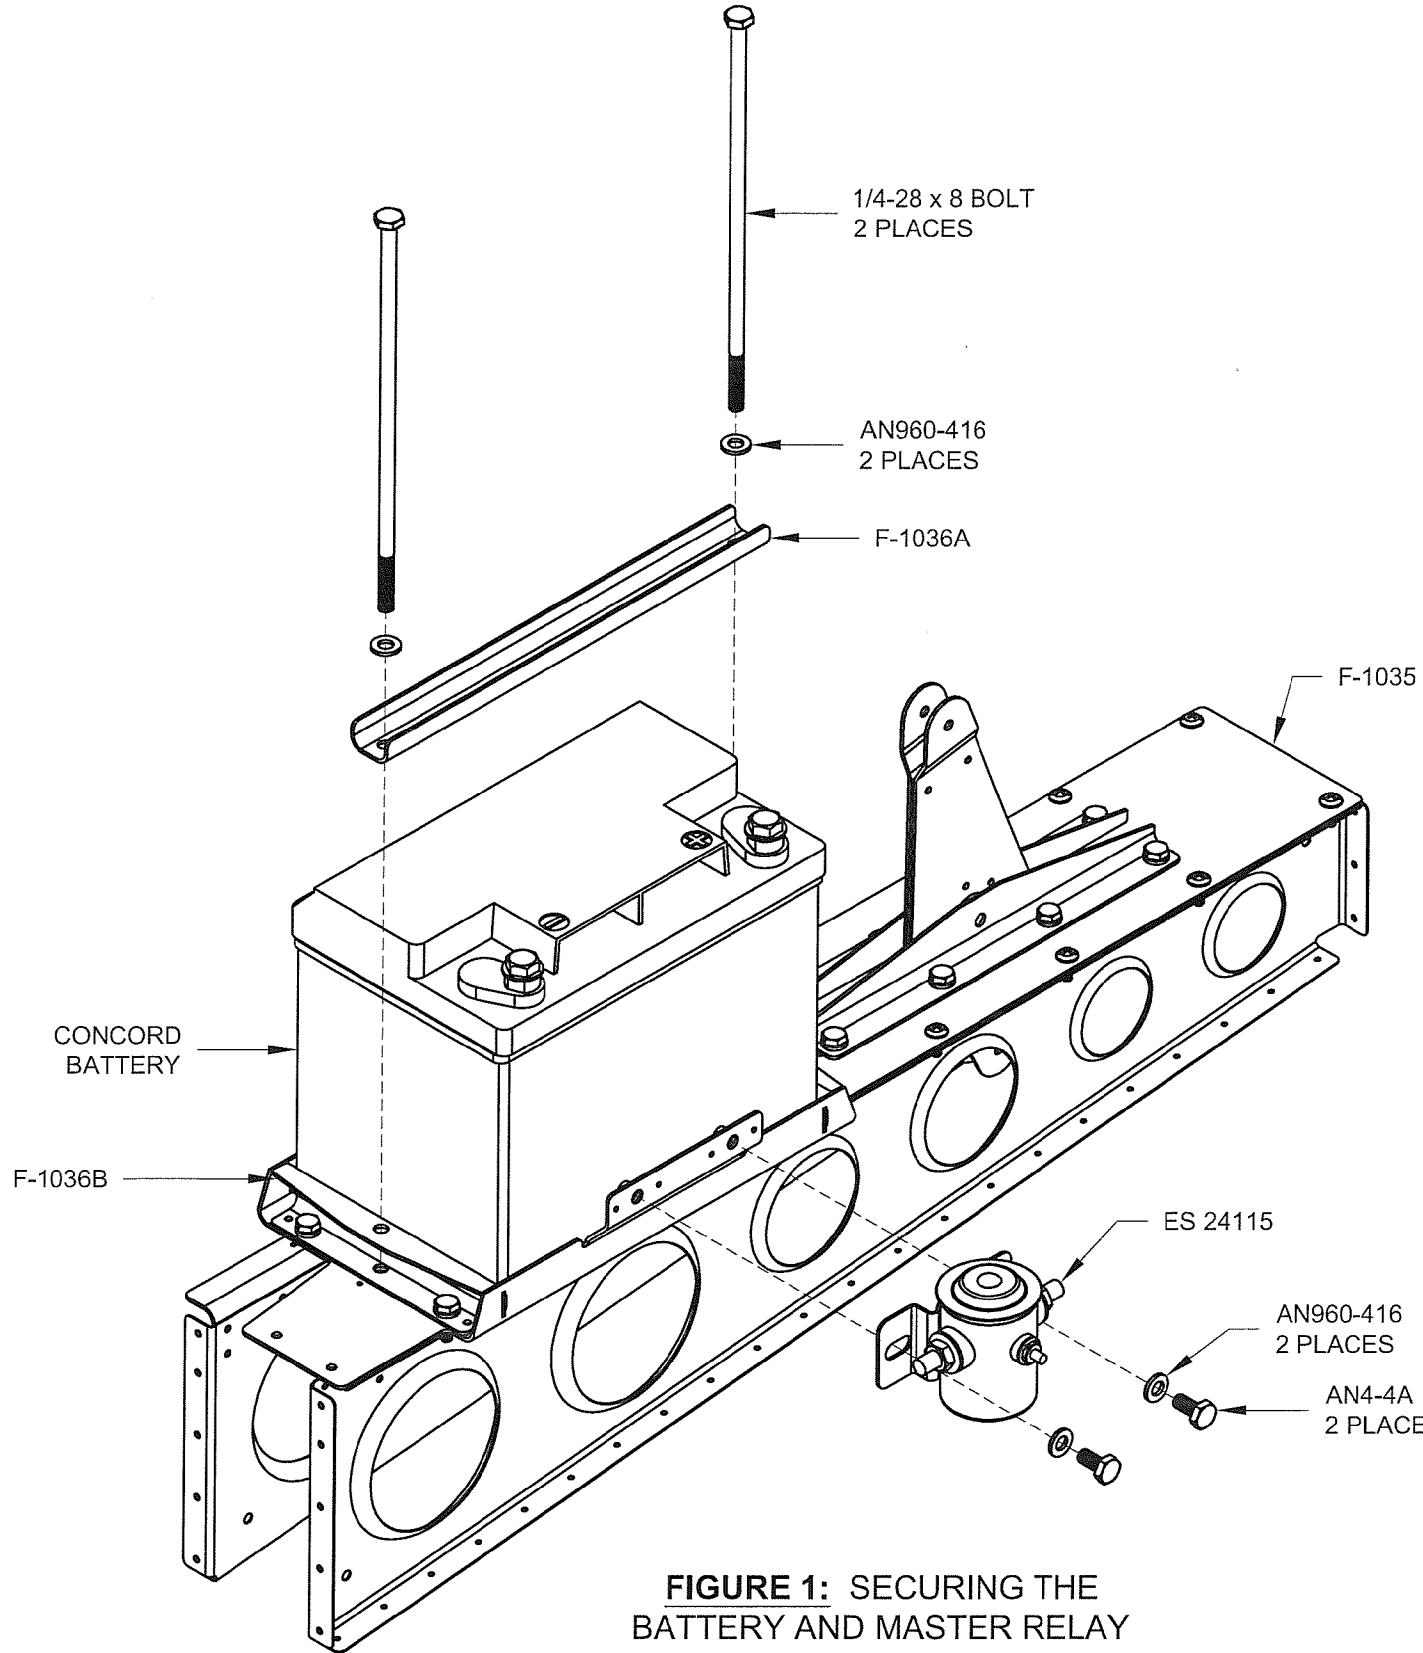

FIGURE 1: SECURING THE
Step 1: Secure the Concord Battery to the F-1035 Battery /Bellcrank Mount using the F-1036A Battery Channel and the hardware shown in Figure 1. The top hole in each F-1036B Battery Channel may be enlarged if it is difficult to install the bolts.
Step 2: Secure the ES 24115 Master Relay to the F-1035 Battery /Bellcrank Mount using the hardware shown in Figure 1.